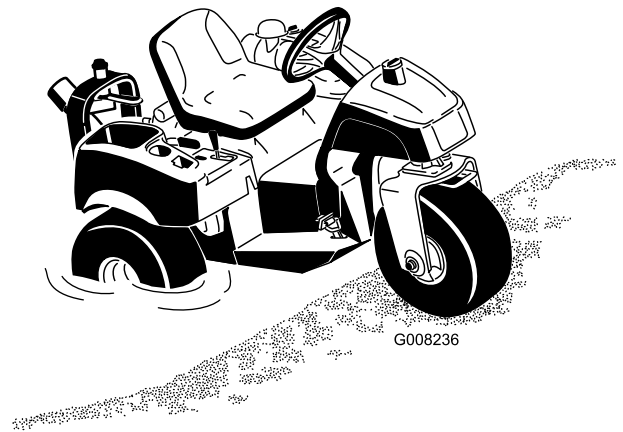

Figure 11
1. Start the Sand Pro and slowly back into the shallowest part of the bunker. Do not drive into water that is deeper than the wheel hubs of the Sand Pro (Figure 11).